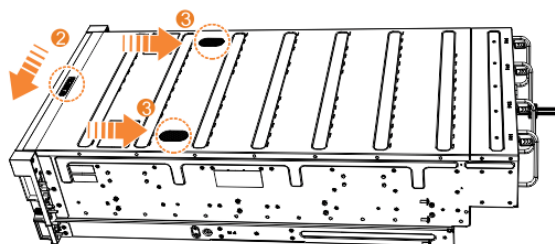

Figure 109. Replacing the top cover
7. Push the cover release lever to the side (2) as shown in Figure 109 on page 158.
8. Slide the cover towards the back of the enclosure (3) back until it stops, as shown in Figure 109 on page 158.